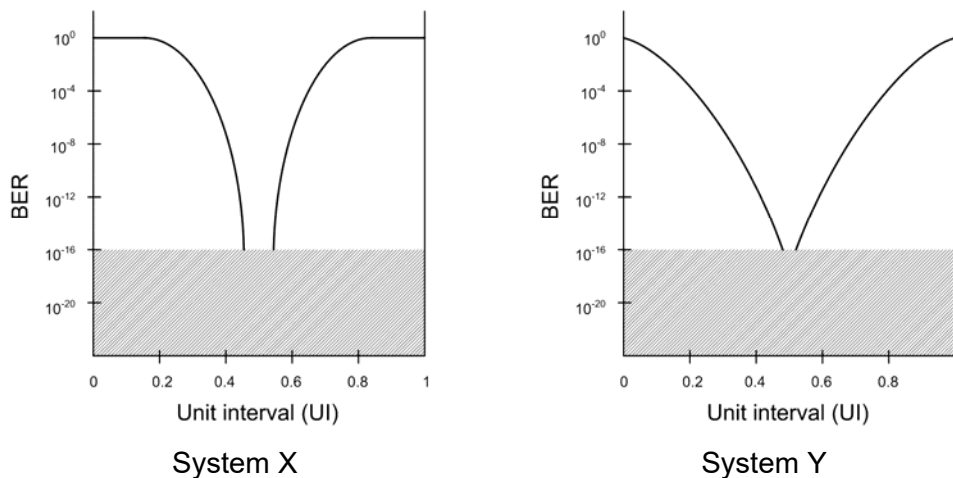

Figure 2.3
- (d) The bathtub curves of two different high-speed systems are shown in Figure 2.3.